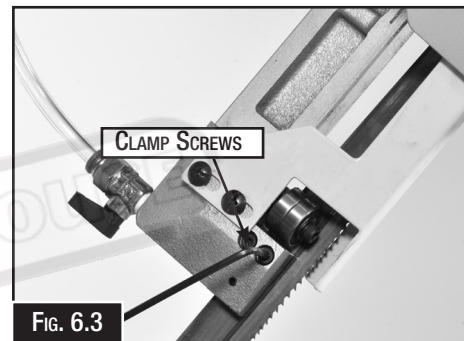

FIG. 6.3
4. Loosen the two clamp screws (Fig. 6.3) and adjust the carbide blade guides with the adjust screw, so the back of the blade just touches the carbide guide.(Fig. 6.4)
4. Loosen the two clamp screws on each side (Fig. 6.3) and remove both the carbide blade guides, then remove the button carbide that the blade edge runs on. (Fig. 6.5)